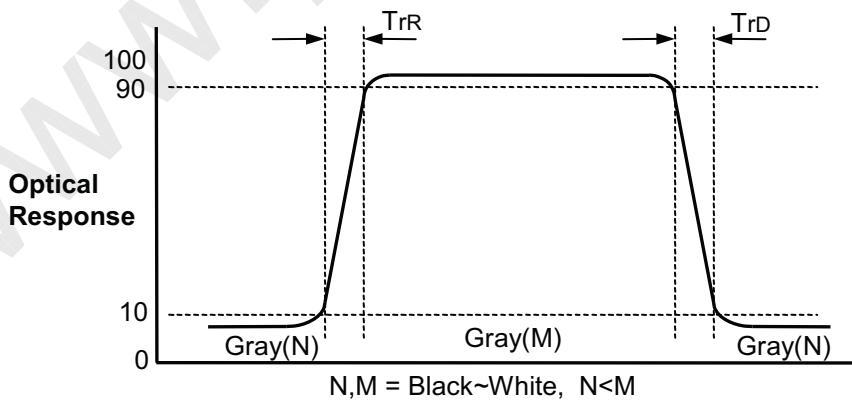

FIG. 3 Response Time
4. Response time is the time required for the display to transit from G(N) to G(M) (Rise Time, Tr_R) and from G(M) to G(N) (Decay Time, Tr_D). For additional information see the FIG. 3. (N < M)